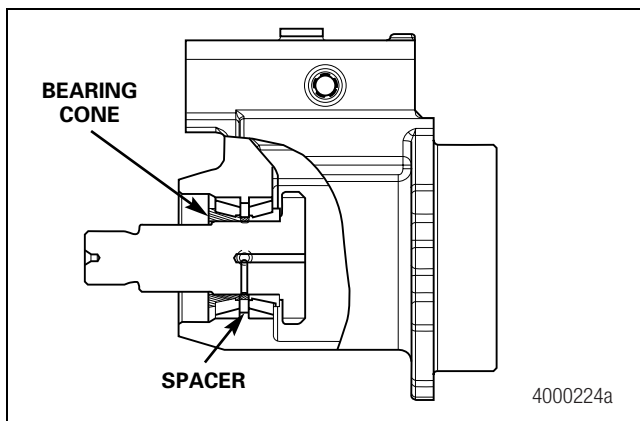

Figure 7.10
- D. With the bearing spacer in position, the second bearing cone can be heated to 200° F (93° C) and installed onto the shaft. Figure 7.10.